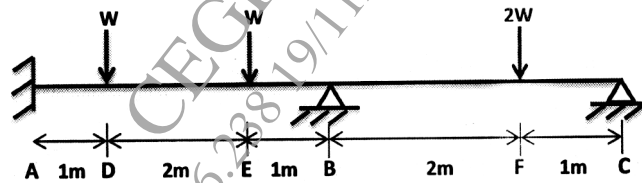

Fig. 11
7. (a) Determine the collapse load of the beam loaded as shown in Fig. 11. [8]